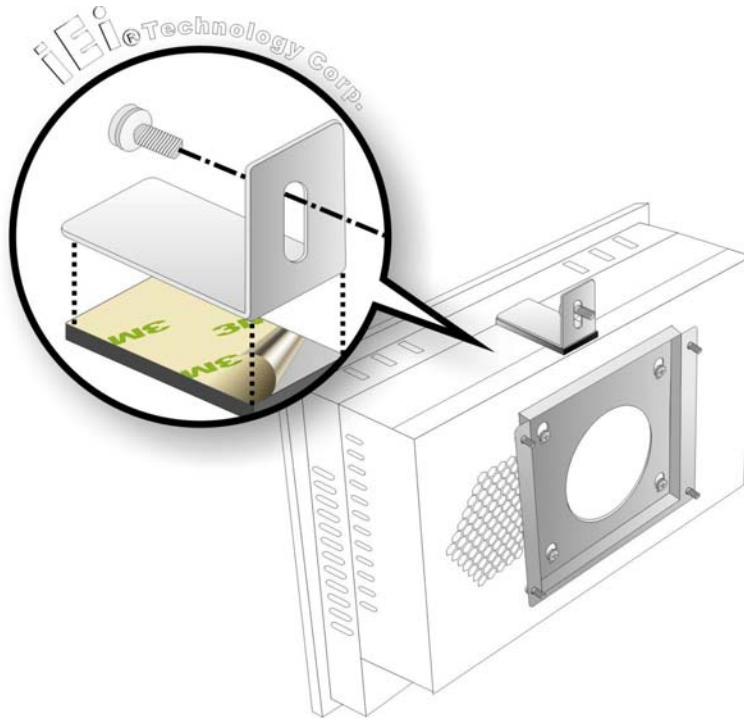

Figure 3-13: Secure the Chassis
Step 9: Secure the panel PC with the wall-mounting kit. To do this, stick the protective cushion to the wall-mounting kit first. Then, put the wall-mounting kit on the top panel of the panel PC. Carefully mark the location of the wall-mounting kit screw holes on the wall. Drill a pilot hole at the marked location on the wall. Secure the wall-mounting kit to the wall by inserting a retention screw into the pilot hole on the wall (**Figure 3-13**). This step is to avoid the panel PC being pushed apart from the wall-mounting bracket accidentally.